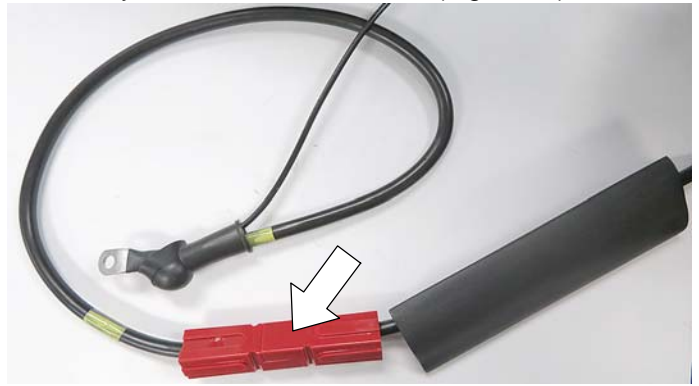

Fig. 15
17. Connect the single pole connector to the negative battery cable harness as shown (Figure 15).